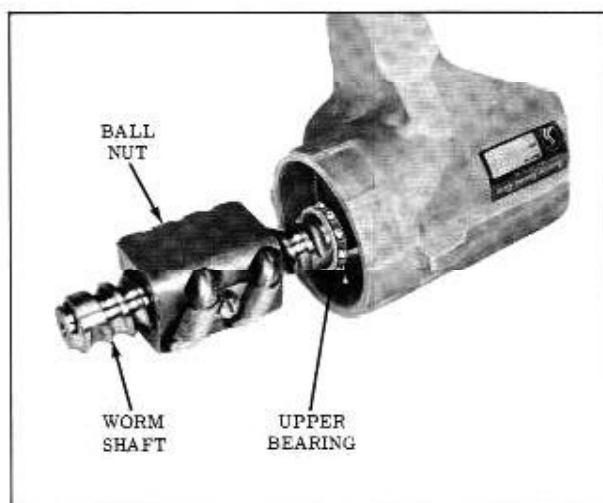

Fig. 4-29 Removing Worm Shaft
6. Remove worm shaft and ball nut assembly from housing (Fig. 4-29). Remove upper ball bearing.